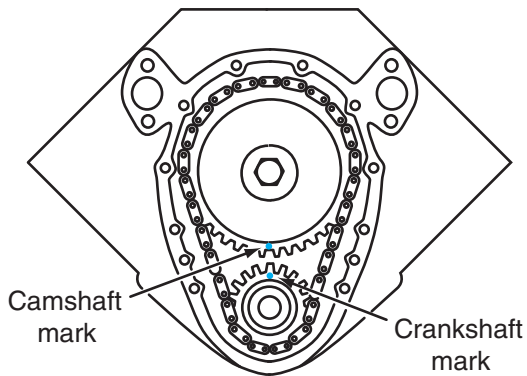

FIGURE 17.46 Install the chain and cam sprocket with the timing marks aligned according to specifications.
- Install the cam sprocket on the cam. The marks should now be in perfect alignment (**Figure 17.46**).